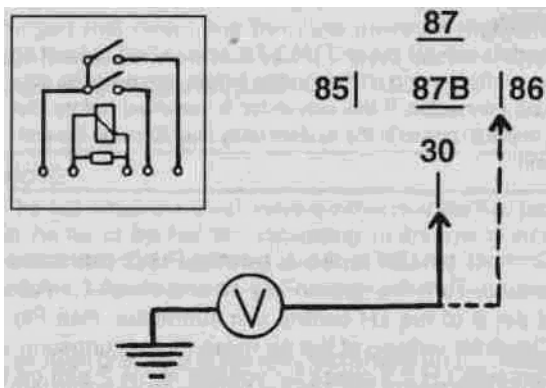

Fig. 10. Voltage being checked at system relay terminals 30 and 86,
4. Remove the system relay and check for voltage at terminal 30 and terminal 86 of the relay socket. See Fig. 10. If any faults are found, check the wiring between the battery and the relay sockets using the appropriate wiring diagram.